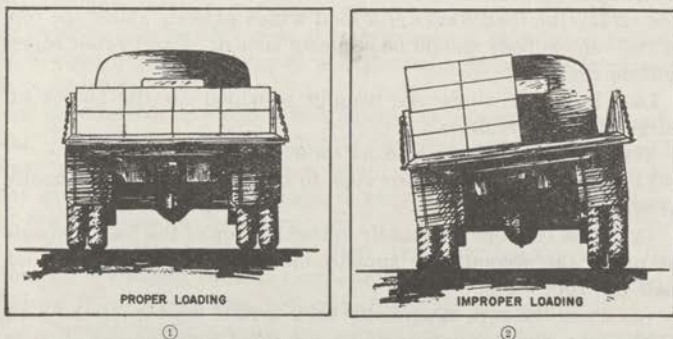

FIGURE 46.—Proper and improper loading.
(1) Heavy supplies should be placed at the bottom of the load and evenly distributed throughout the body of the truck.
(2) The cargo should be carefully built up so as to avoid shifting (fig. 46).